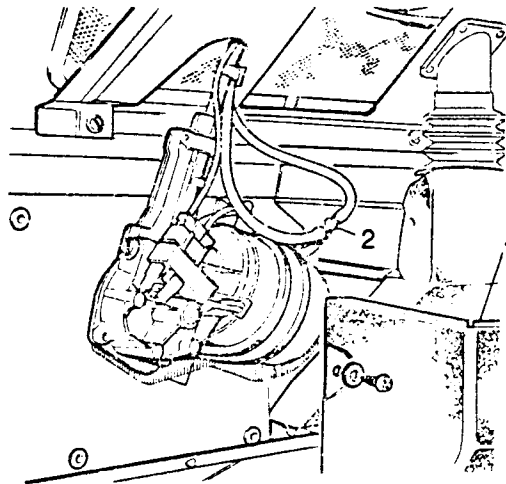

Fig V3.4
- (7) Refer to Fig V3.4. Remove the screws securing the wiper motor cover and withdraw the cover (1).
- (8) Remove the two screws securing the instrument panel and ease the panel towards the steering wheel.
- (9) Release the demister tubes from the upper fascia vents.
- (10) Remove the upper fascia.
- (11) Remove the retaining clips from the washer tubes.
- (12) Withdraw the washer tubes and their connecting T piece (2).